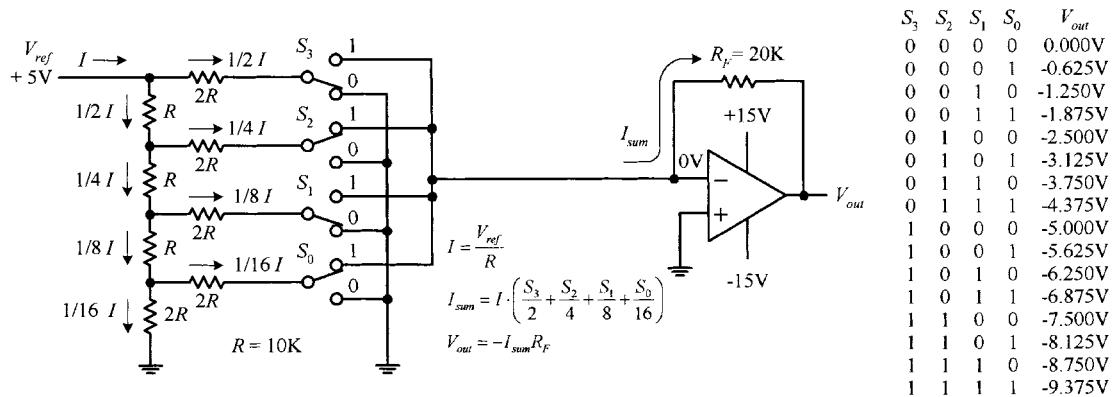
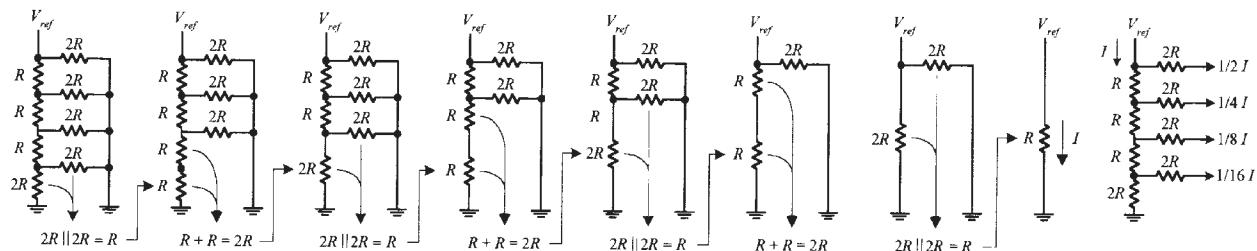

FIGURE 12.118
FIGURE 12.119
An R/2R DAC uses an R/2R resistor ladder network instead of a scaled-resistor network, as was the case in the previous DAC. The benefit of using the R/2R ladder is that we need only two resistor values: R and 2R. Figure 12.118 shows a simple 4-bit R/2R DAC. For now, assume that the switches are digitally controlled (in real DACs, they are replaced with transistors).
The trick to understanding how the R/2R ladder works is realizing that the current drawn through any one switch is always the same, no matter if it is thrown up or down. If a switch is thrown down, current will flow through the switch into ground (0 V). If a switch is thrown up, current will flow toward virtual ground—located at the op amp's inverting input (recall that if the noninverting input of an op amp is set to 0 V, the op amp will make the inverting input 0 V, via negative feedback). Once you realize that the current through any given switch is always constant, you can figure that the total current (I) supplied by  $V_{ref}$  will be constant as well. Once you have that, you figure out what fractions of the total current pass through each of the branches within the R/2R network using simple circuit analysis. Figure 12.118 shows that  $\frac{1}{2}I$  passes through  $S_3$  (MSB switch),  $\frac{1}{4}I$  through  $S_2$ ,  $\frac{1}{8}I$  through  $S_1$ , and  $\frac{1}{16}I$  through  $S_0$  (LSB switch). If you're interested in how that was figured out, the circuit reduction shown in Fig. 12.119 should help.
0101 (5),  $\frac{1}{4}I + \frac{1}{16}I$  combine to form  $I_{\text{sum}}$ . But what is  $I$ ? Using Ohm's law, it's just  $I = V_{\text{ref}} / R = +5 \text{ V} / 10 \text{ k}\Omega = 500 \mu\text{A}$ . This means that  $I_{\text{sum}} = \frac{1}{4}(500 \mu\text{A}) + \frac{1}{16}(500 \mu\text{A}) = 156.25 \mu\text{A}$ . The final output voltage is determined by  $V_{\text{out}} = -I_{\text{sum}}R_F = -(156.25 \mu\text{A})(20 \text{ k}\Omega) = -3.125 \text{ V}$ . The formulas and the table in Fig. 12.118 show the other possible binary/analog combinations.